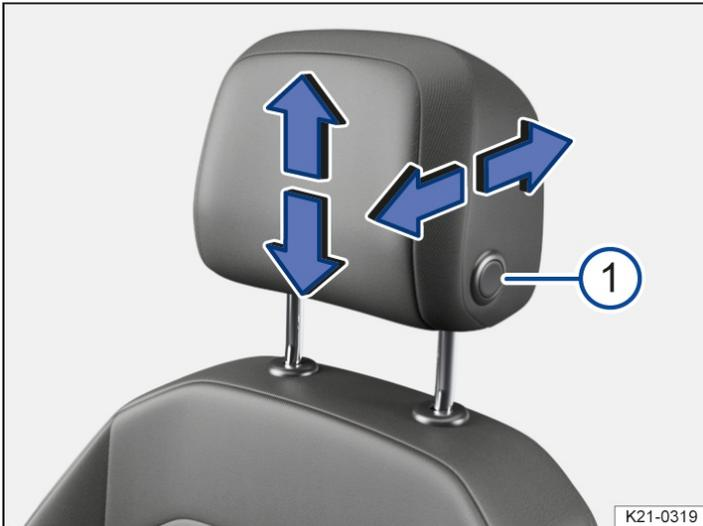

Fig. 2 General example: removing the front head restraint with forward/backward adjustment.
3. On both sides, insert a flat object, e.g. a plastic card, between the backrest cover and the head restraint guide pin cap and, at the same time, unlock the support rods by pressing slightly → *fig. 2* ①.
2. Push the head restraint downward while pressing the → *fig. 2* ① button fully.